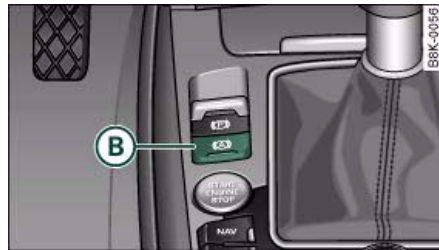

Fig. 133 Detail of the centre console: Button for Audi hold assist
- Press button  ⇒ fig. 133 in the centre console to switch on the Audi hold assist function. The indicator lamp in the switch will light up.
- Press button  ⇒ fig. 133 to switch off the Audi hold assist function. The indicator lamp in the switch will go out.